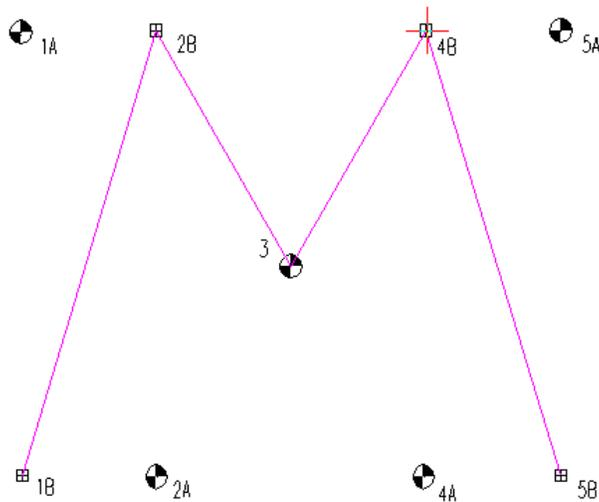

Figure 3-8: Completed M Connected With Mouse
21. If required, the steps to create this drawing Figure 3-8 are: